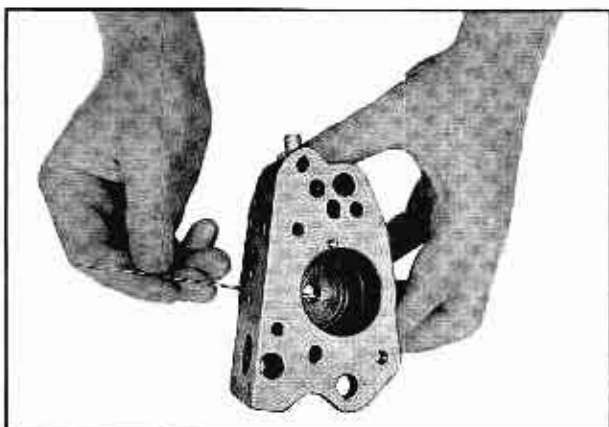

Fig. 14-59 Checking 4-3 Downshift Passage
3. See that the 4-3 downshift valve is free in bore and check the 4-3 downshift plug orifice for free passages in servo body, Fig. 14-59.